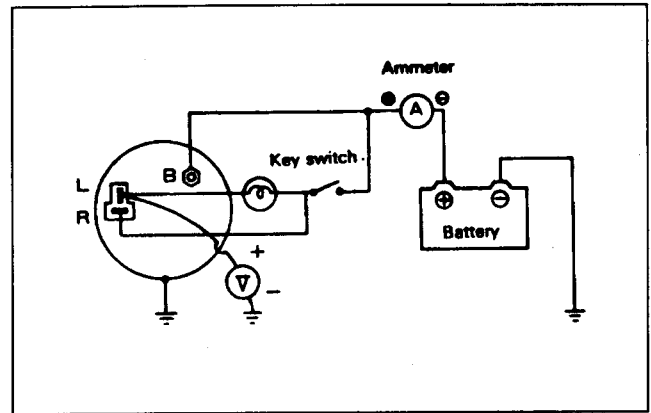

Figure 30
1. Install an ammeter between the positive (+) terminal of the battery and terminal "B" of the alternator (Fig. 30).